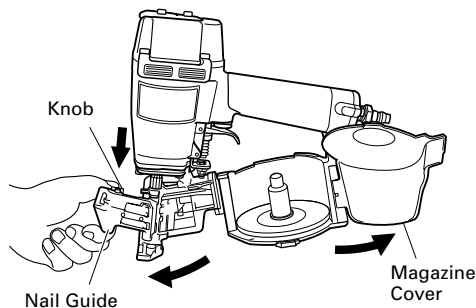

Fig. 1
- (1) Grip the nail guide and knob with your fingers. Press the knob down and swing the nail guide open. Then open the magazine cover. (Fig. 1)